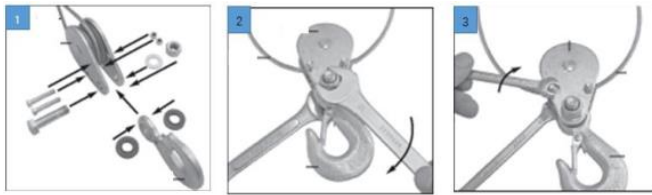

Figure 3
4. 4, Double rope using pulley installation diagram (Figure 3)